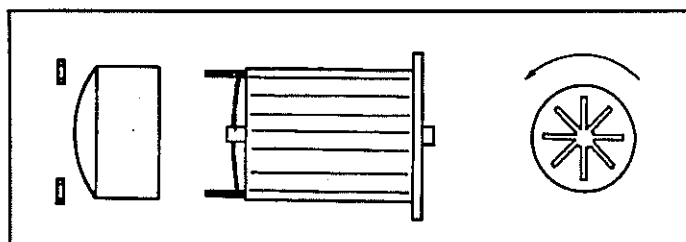

Fig.2.10
- remove the cap of the lifting geared motor placed on the left hand side of the platform (fig.2.10)
- lift the platform by rotating the fan of the lifting geared motor anti-clockwise, by hand (fig.2.10).